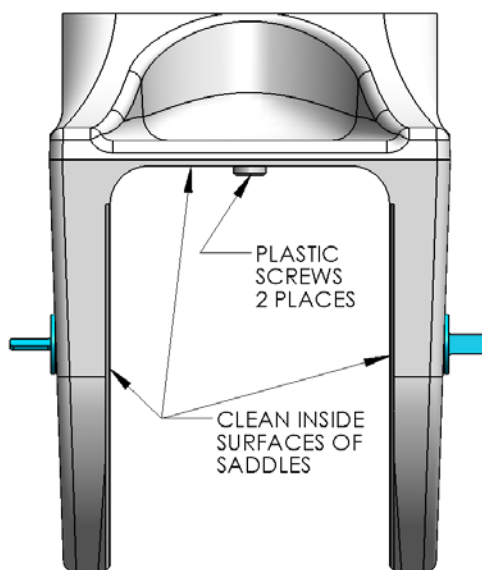

FIGURE 11 - SADDLE CLEANING
- 2) Check that each saddle contains 2 plastic screws which will insure an adhesive gap of .080" (2 mm) on top surface of hull as shown in Figure 11.
- 3) Thoroughly clean with alcohol or acetone the inside surfaces of gyro foundation saddles to remove any contaminants as shown in Figure 11. Use new paper towels for cleaning, not shop rags.